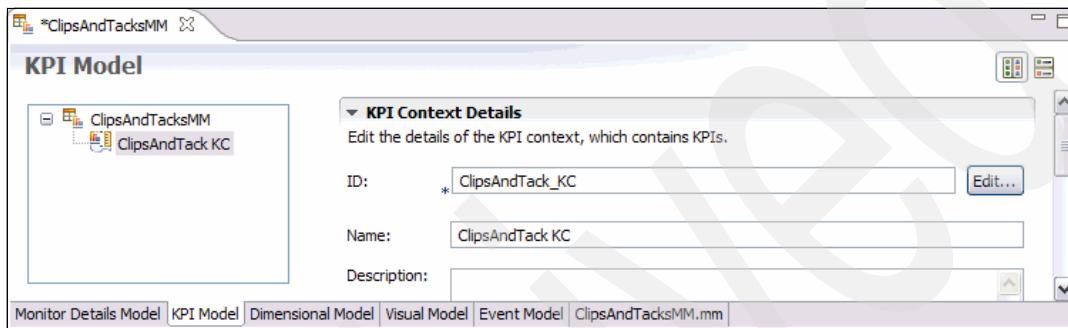

Figure 5-48 ClipsAndTacks KPI context
- b. Under KPI Context Details (Figure 5-48), for Name, type ClipsAndTacks KC and click **OK**. A new KPI context is created.